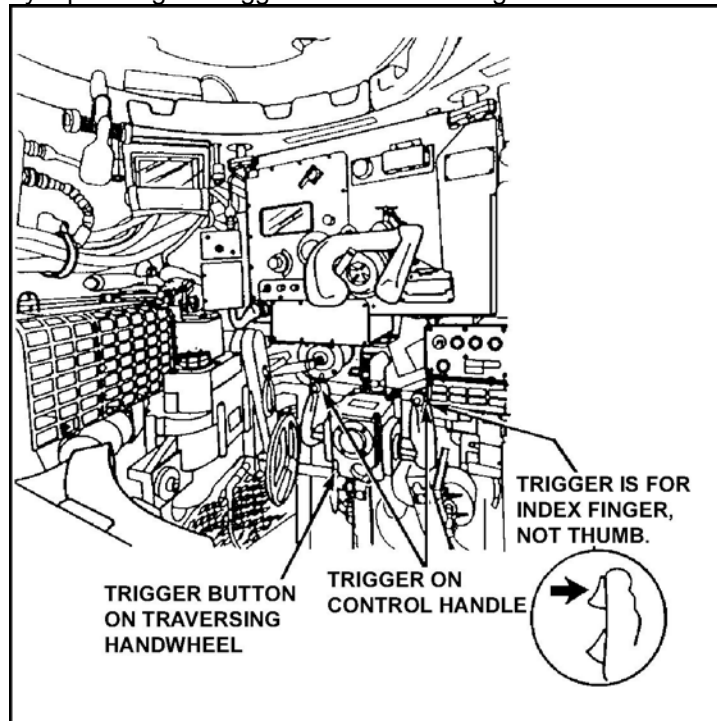

Figure 6. Gunner's control handles.
10. Fire at the target by squeezing the trigger switches on the gunner's control handles (Figure 6).